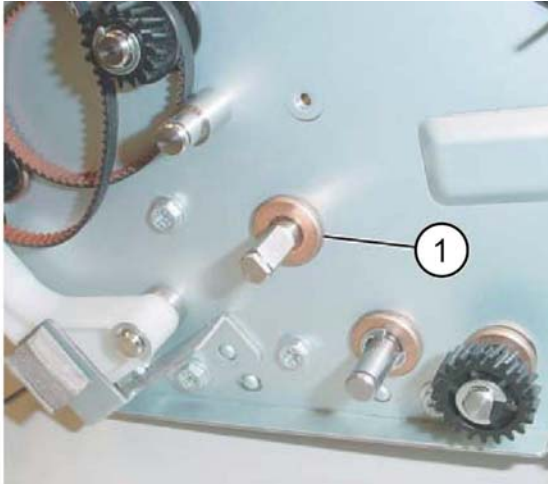

Figure 4 Bearing removal
6. Remove the bearing, Figure 4.